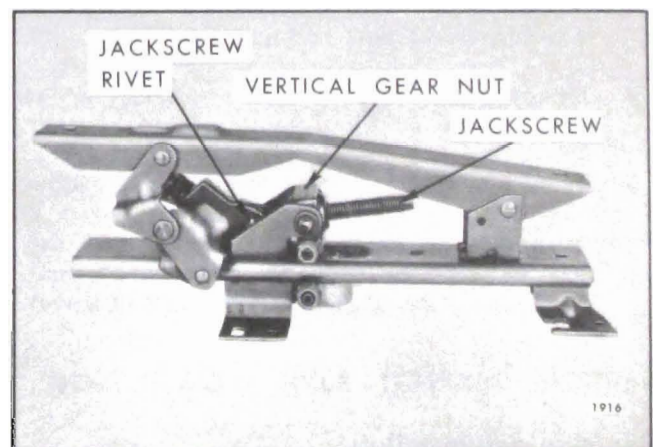

Fig. 15-9—Four-Way Seat Adjuster - "A" Styles
3. As a bench operation, remove jackscrew-to-adjuster linkage attaching rivet and remove jackscrew from adjuster assembly (Fig. 15-9).